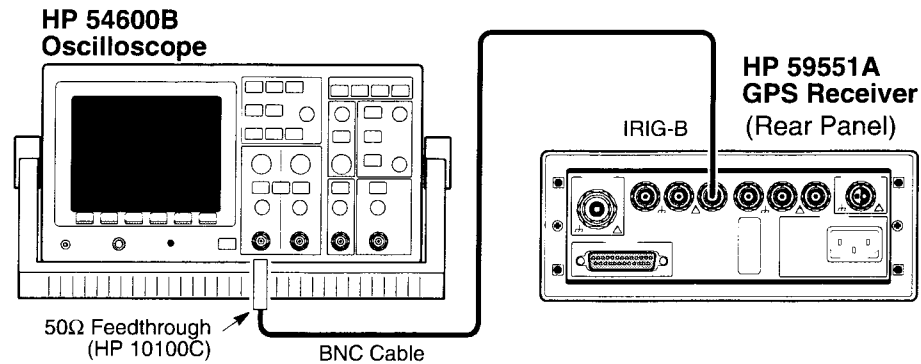

Figure D-3. HP 59551A IRIG-B Operational Verification Setup
- 2 Connect the oscilloscope to the rear-panel **IRIG-B** output of the HP 59551A GPS Receiver as shown in Figure D-3.